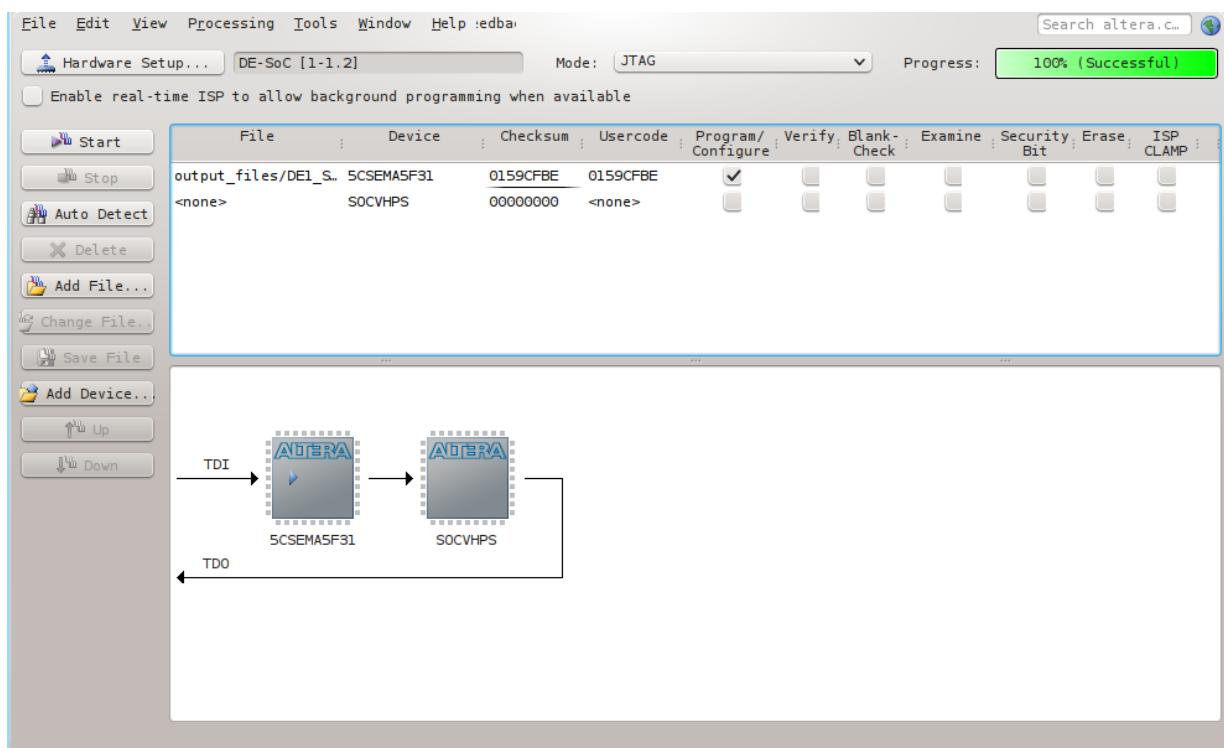

Figure 9-21. Programming the FPGA
46. Enable the “Program/Configure” checkbox for device “5CSEMA5F31”, then press the “Start” button, as shown in Figure 9-21.